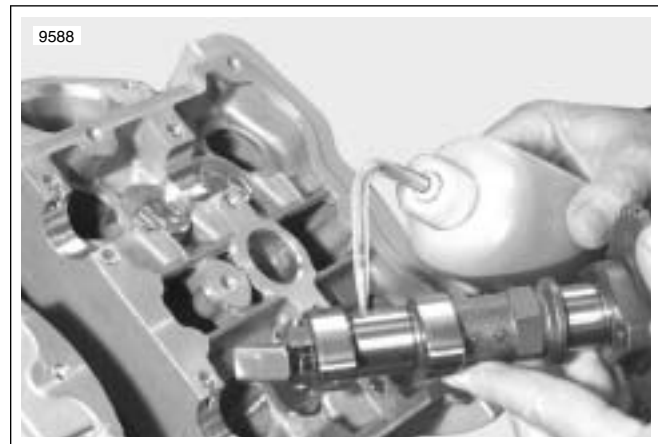

Figure 3-263. Lubricate Cam
9. See Figure 3-263. Lubricate cam journals, lobes, and tappets with Harley-Davidson Motorcycle Oil 20W50. In addition, a thin film of Lubriplate No. 105 Motor Assembly Grease (NAPA Part No. 765-2651) is recommended.